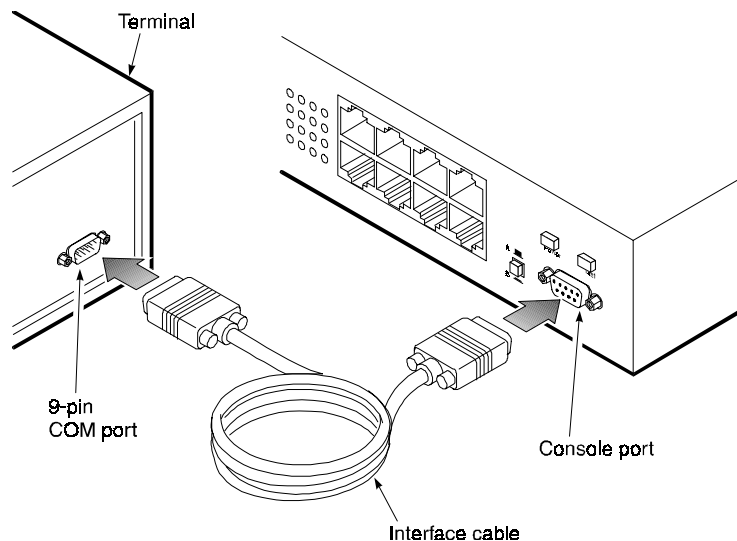

Figure 2-4. Connecting a Terminal to the Console Port
1. Connect a terminal to the console port using an interface cable (Figure 2-4).